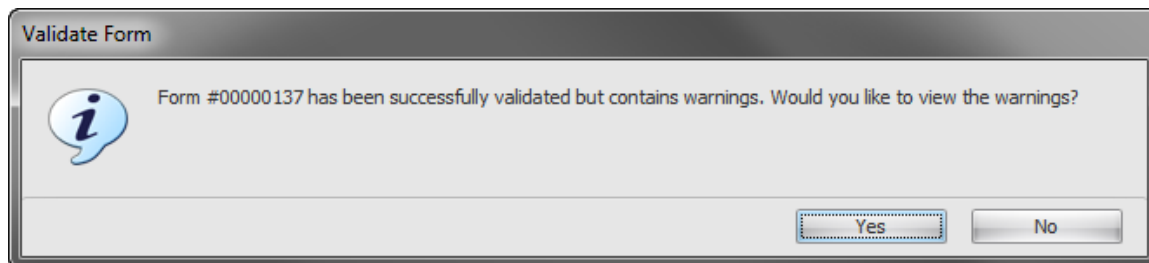

Figure 53. Validate Form Dialog Box
3. If the form contains warnings, the **Validate Form** dialog box opens, as shown in Figure 53. Click **Yes** to see the warnings or **No** to complete validation.